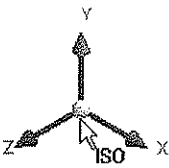
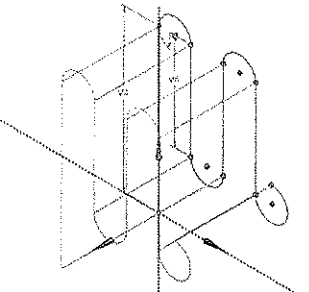

Figure 3-77 The Triad with the ISO ball
Figure 3-78 The Isometric view of the model
- 2. Click on the ISO ball available on the bottom right corner of the **Graphics** window; the view is changed to isometric. Figure 3-77 shows the ISO ball with the Triad and Figure 3-78 shows the Isometric view of the model.